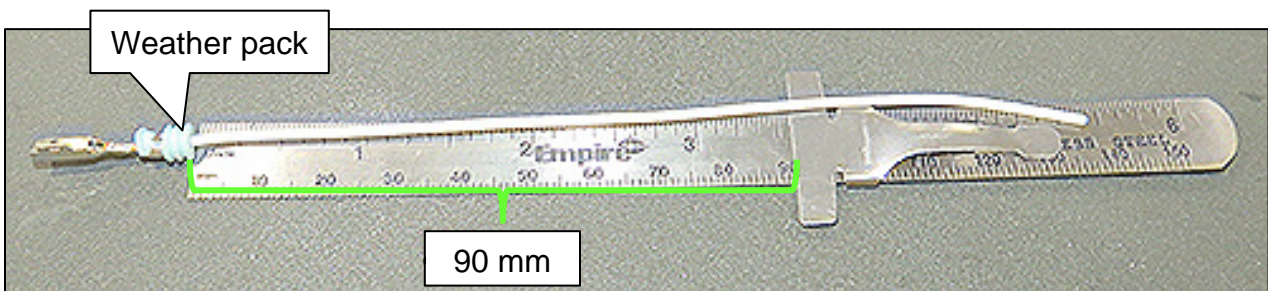

Figure 8
5. Cut the two (2) repair kit wire lengths to 90 mm (Figure 8).